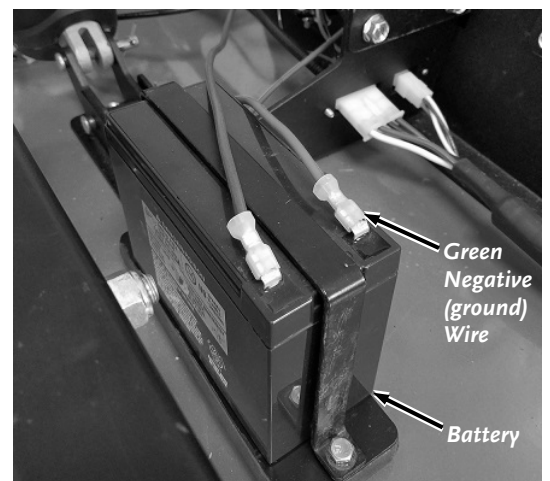

Figure 8
- Push the negative Wire Connector fully onto the negative terminal of the Battery (**Figure 8**).